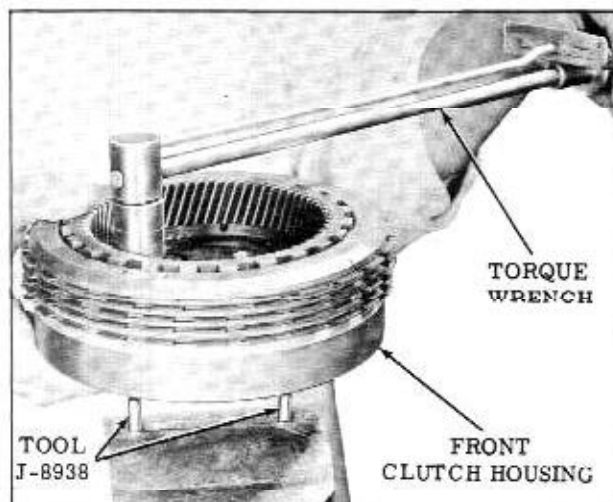

Fig. 3-65 Assembling Clutch Housing
9. Install Tool J-8938 (studs) in dowel pin holes in clutch housing assembly and secure in visc. (Fig. 3-65) Torque 22-27 ft. lbs.